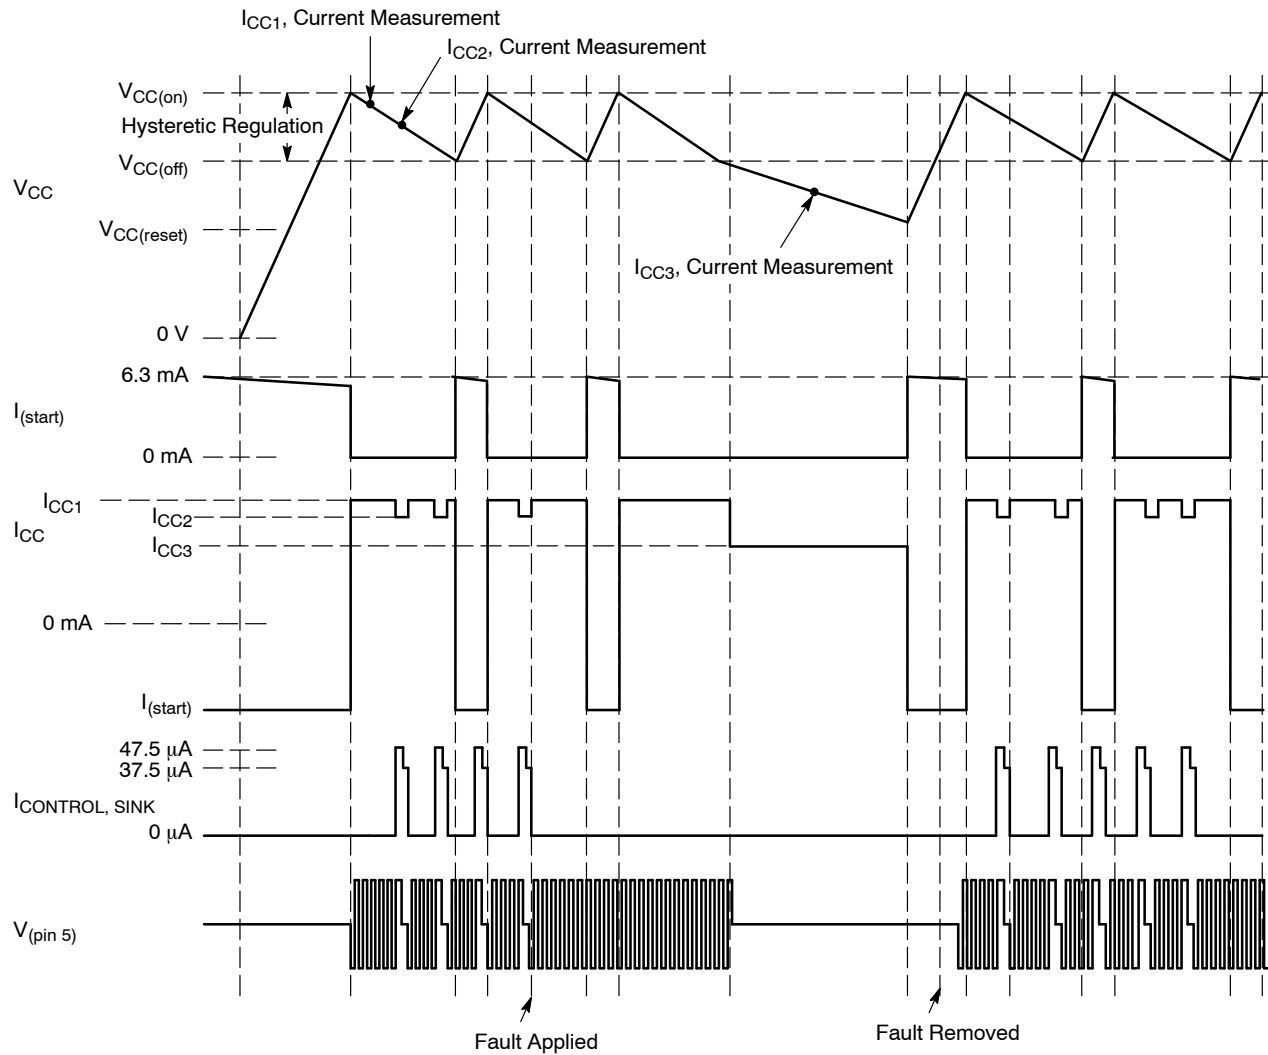

Figure 4. Non-Latching Fault Condition Timing Diagram
10. See Non-Latching Fault Condition Timing Diagram in Figure 4.